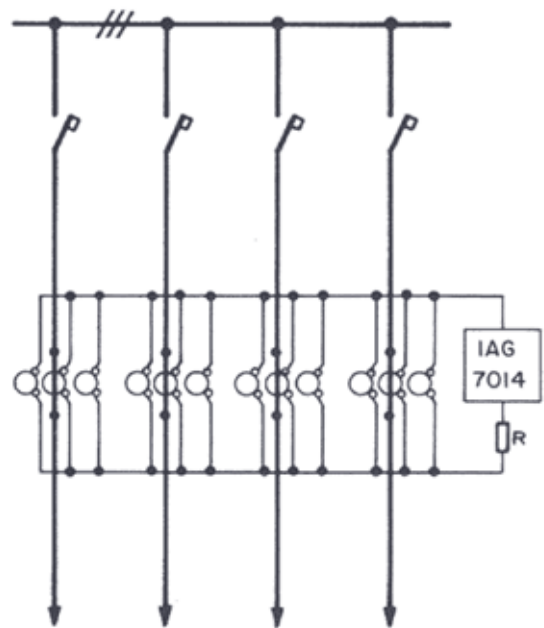

Figure 2
- *Instantaneous restricted earth fault protection of bus-bars or transformers (IAG 7014 - see fig. 2 and 3).*